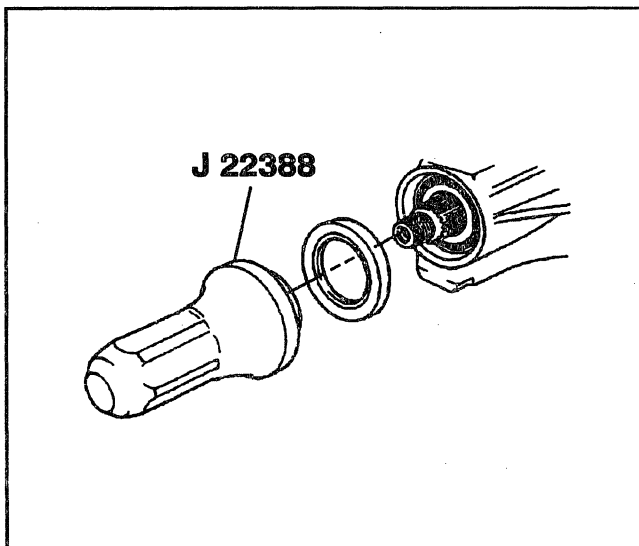

Figure 15—Installing the Pinion Oil Seal
1. The pinion inner bearing (5) using J 8609-01.
2. A new collapsible spacer (4).
3. Pinion (7) to the axle housing.
4. Outer pinion bearing (39) onto the pinion using J 5590.
5. Pinion oil seal (38) using J 22388 (Figure 15).